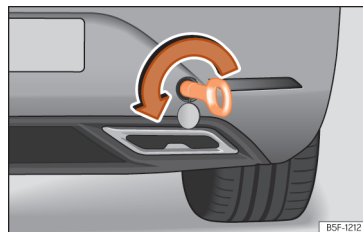

Fig. 214 Right side of the rear bumper: towline anchorage screwed in.
- Screw the towing eye in the housing by turning it to the maximum **anticlockwise** >>> Fig. 214 , >>> ①. Use a suitable object that can completely and securely tighten the towing eye in its housing.